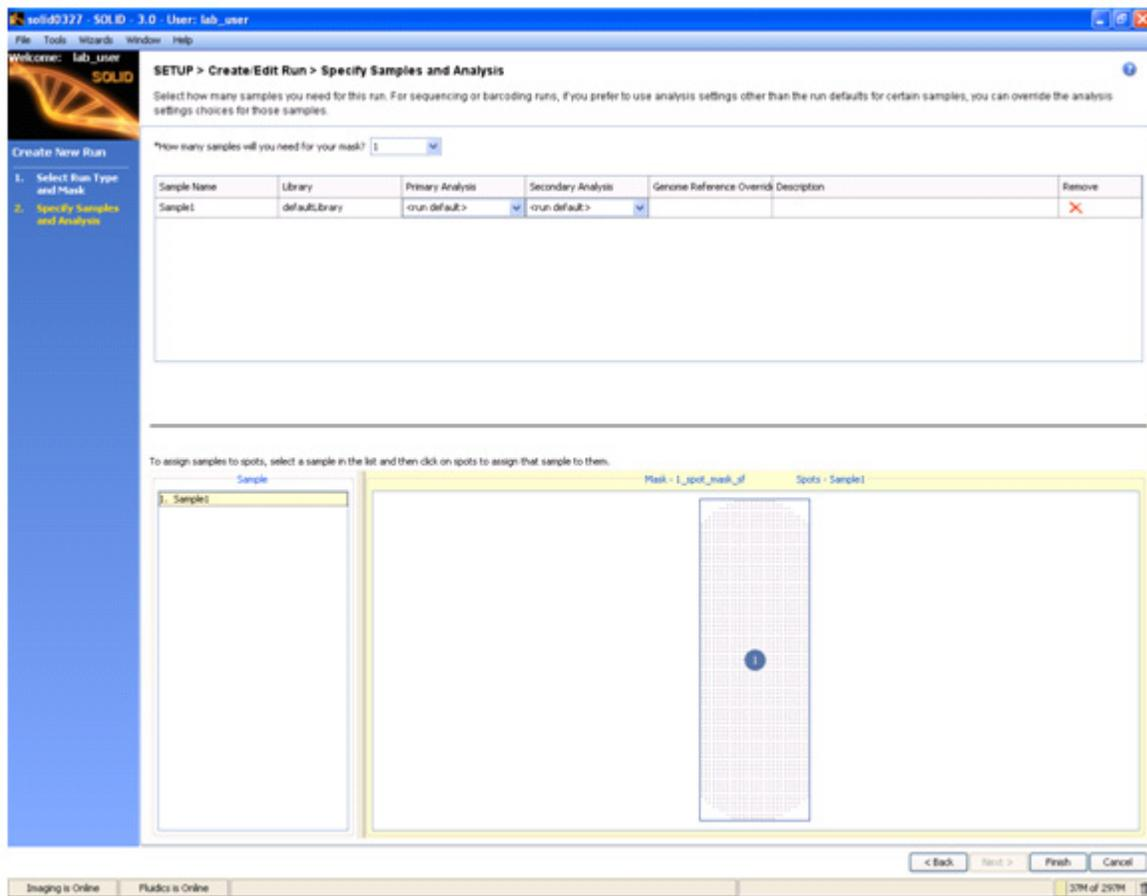

Figure 45 Complete the information in the Specify Samples and Analysis pane.
3. Complete the information in the Specify Samples and Analysis pane (see Figure 45 on page 62):